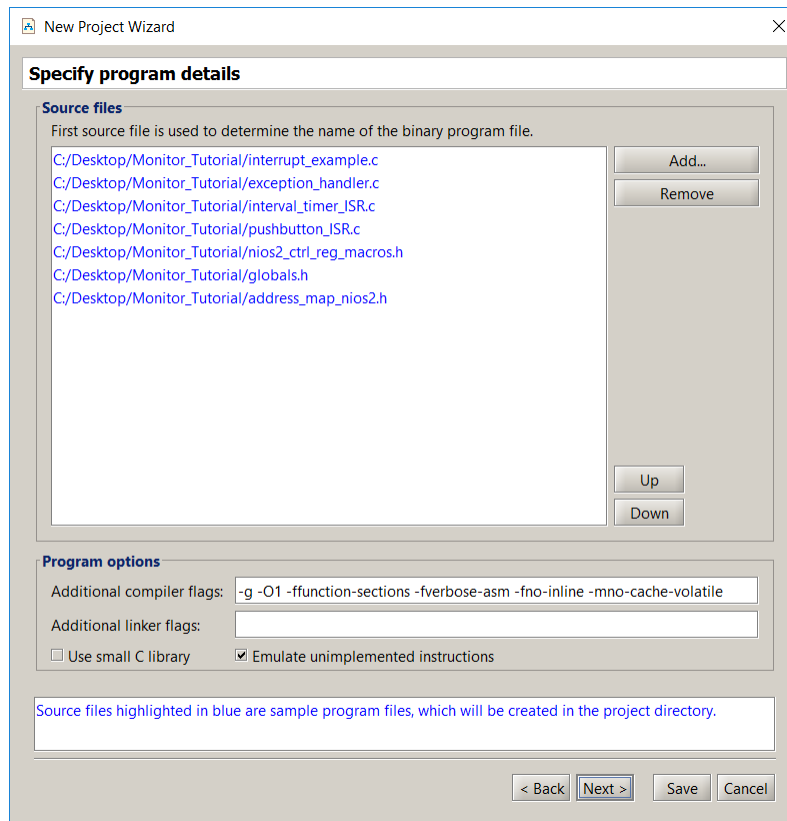

Figure 35. The source files for the C code interrupt example.
To see an example of a C program that uses interrupts, create a new project called *Monitor\_Interrupts\_C*. When creating this project, set the program type to **C Program** and select the sample program named *Interrupt Example*; this program gives C code that performs the same operations as the assembly-language code in the previous example. The source files for the C code are listed in Figure 35. The main program is given in the file *interrupt\_example.c*, and the other source files provide the reset and exception handling for the C program, as well as two interrupt-service routines. Complete the steps for creating the project, and then compile and load it.
- Memory element size - the display can format the memory contents as bytes, half-words (2-bytes), or words (4-bytes). This setting can be configured by right-clicking on the Memory window, as illustrated in Figure 35.